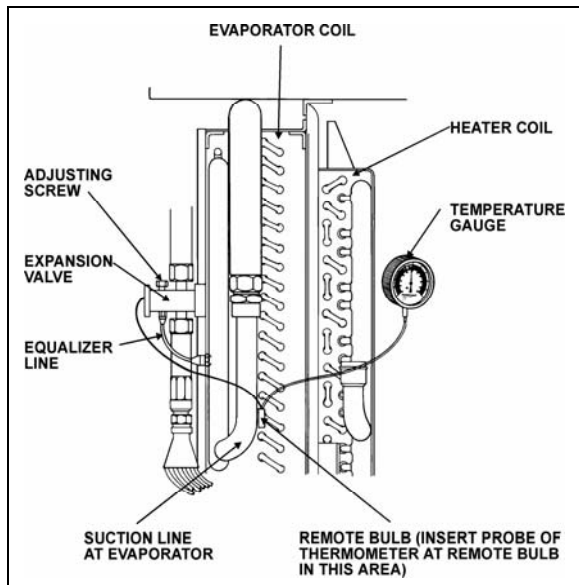

FIGURE 35: SUPERHEAT ADJUST. INSTALLATION 22046
The easiest method of adjusting the superheat is to unscrew completely the main evaporator expansion valve adjusting screw, and screw in 13 turns clockwise for 134A (figure 35). If this method does not provide an accurate superheat, the following procedure should be followed:
3. Install a remote reading thermometer to the evaporator outlet line near the existing remote bulb (figure 35).